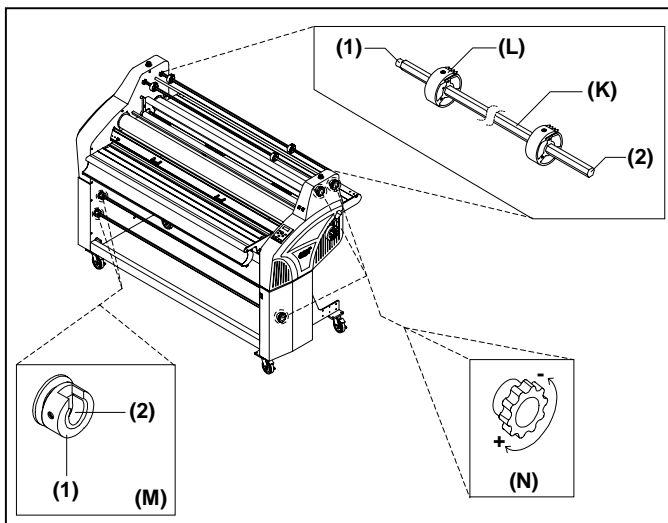

Fig. 18
K. FILM SHAFT: (Figure 18) The film shaft holds the film supply on the machine.
L. CORE ADAPTORS: (Figure 18) Hold and lock the rolls of film on the shafts to prevent side to side shifting.
M. LOWER SHAFT LOCK: (Figure 18) Secures the left side of the lower shafts. To remove a shaft, turn the outer dial (1) opening so it aligns with the inner u-channel (2) opening and lift up and out.
N. UNWIND/REWIND TENSION: (Figure 18) Used to apply resistance to the film shaft.